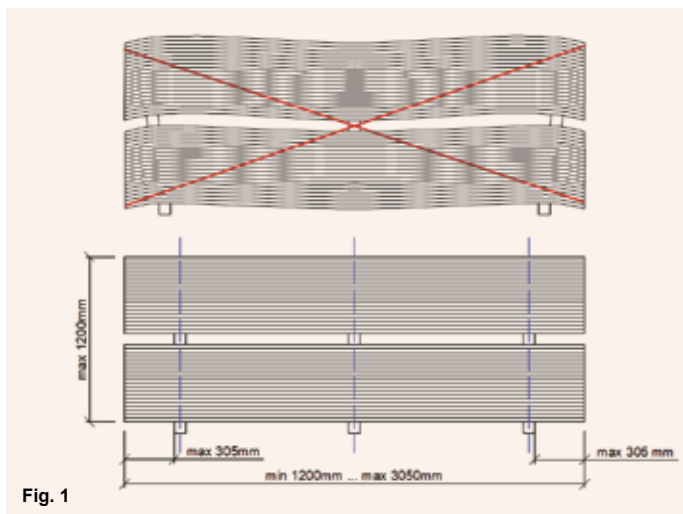

Fig. 1
**VMG Lignum Board | Wall** should be stacked horizontally on wooden battens (100 x 80 mm). Wooden battens should be of the same dimensions and spaced no further than 950 mm apart. At the edges, **VMG Lignum Board | Wall** should not project from the last wooden battens by more 305 mm. Wooden battens should be vertically aligned to avoid damage (Fig. 1).